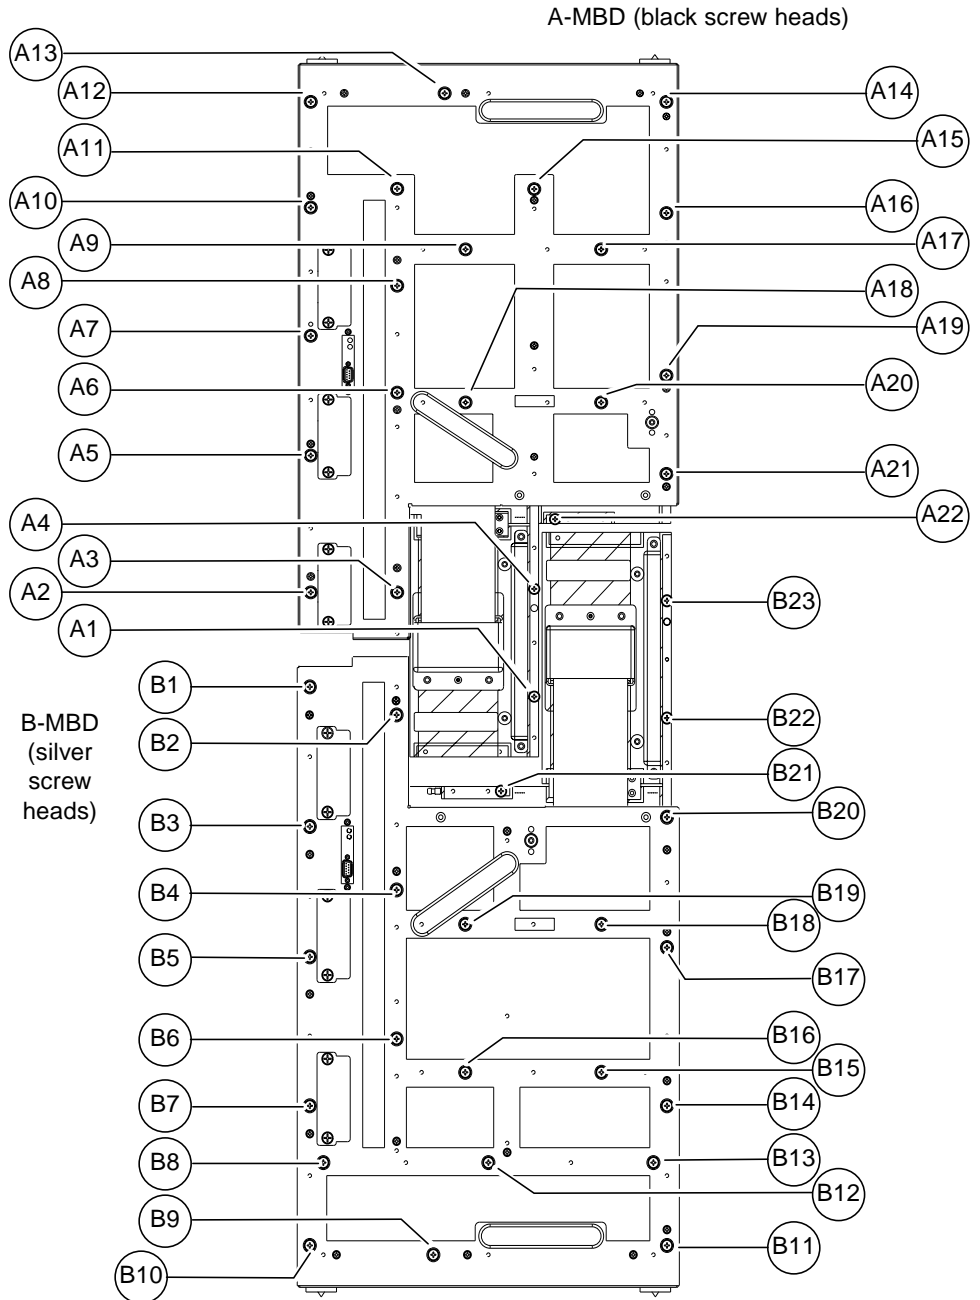

FIGURE 3-7 Motherboard Securing Screws
9. Loosen all 22 (A-MBD) or 23 (B-MBD) captive screws securing the motherboard to the chassis (see FIGURE 3-7).